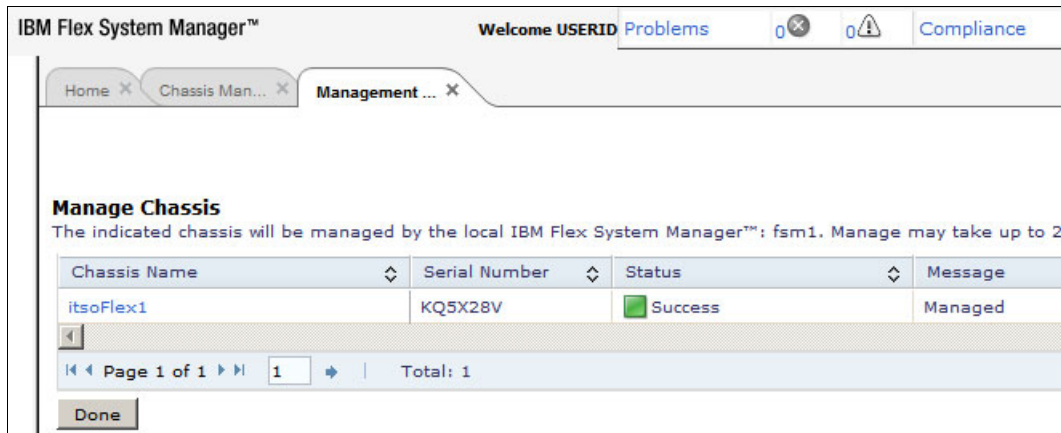

Figure 6-27 FSM manage chassis steps completed
- After the successful completion of the manage chassis process, click **Done** as shown in Figure 6-27.